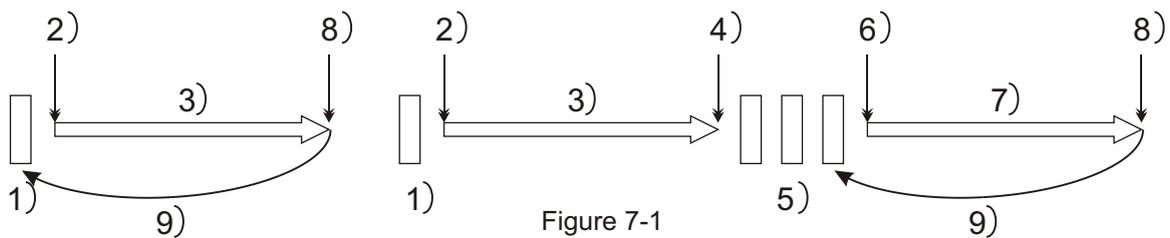

Figure 7-1
- ❸ Playing.
- ❹ The pause mode is set when the PLAY/PAUSE button is pressed again
- ❺ Pausing.
- ❻ Playback resumes when the PLAY/PAUSE button is pressed again.
- ❼ Playing.
- Figure 7-1 shows the relationship between the play and back cue operations.